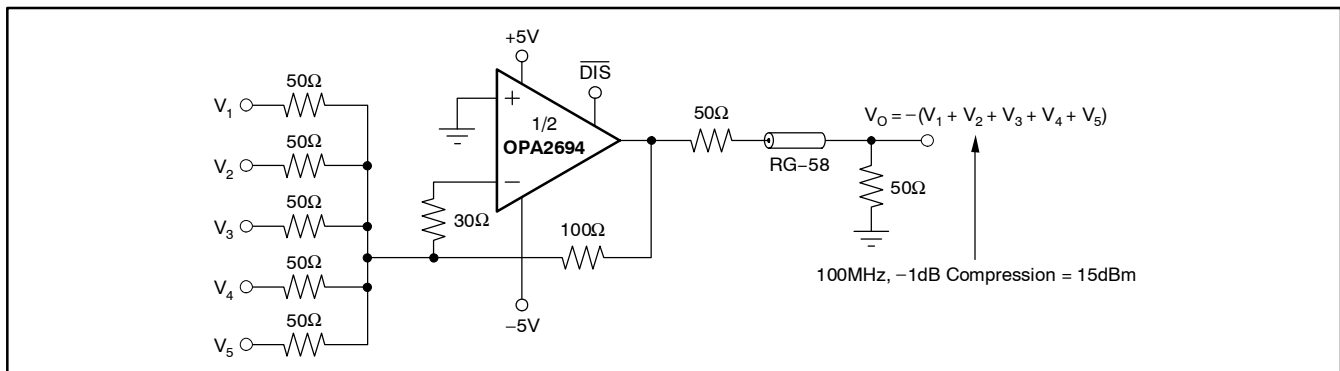

Figure 4. 200MHz RF Summing Amplifier
gain), wideband inverting summing stages may be implemented using the OPA2694. The circuit in Figure 4 shows an example inverting summing amplifier, where the resistor values have been adjusted to maintain both maximum bandwidth and input impedance matching. If each RF signal is assumed to be driven from a 50Ω source, the NG for this circuit will be $(1 + 100\Omega / (100\Omega / 5)) = 6$. The total feedback impedance (from V_O to the inverting error current) is the sum of R_F + (R_i • NG), where R_i is the impedance looking into the inverting input from the summing junction (see the *Setting Resistor Values to Optimize Performance* section). Using 100Ω feedback (to get a signal gain of -2 from each input to the output pin) requires an additional 30Ω in series with the inverting input to increase the feedback impedance. With this resistor added to the typical internal R_i = 30Ω, the total feedback impedance is 100Ω + (60Ω • 6) = 460Ω, which is equal to the required value to get a maximum bandwidth flat frequency response for NG = 6.
The total impedance going into the inverting input may be used to adjust the closed-loop signal bandwidth. Inserting a series resistor between the inverting input and the summing junction will increase the feedback impedance (denominator of Equation (2)), decreasing the bandwidth. This approach to bandwidth control is used for the inverting summing circuit of Figure 4. The internal buffer output impedance for the OPA2694 is slightly influenced by the source impedance looking out of the noninverting input terminal. High source resistors will have the effect of increasing R_i , decreasing the bandwidth.